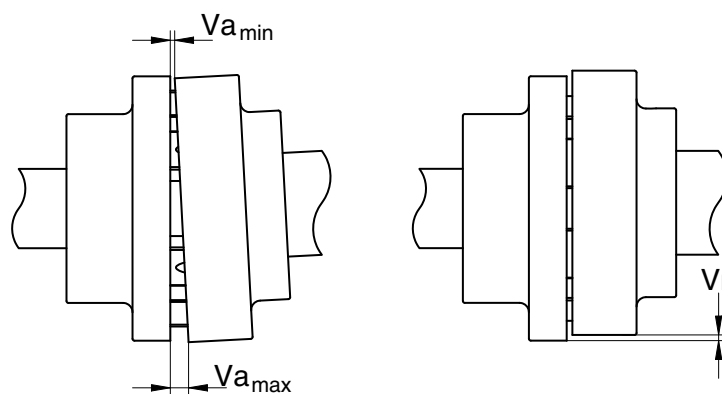

Figure 4: Alignment tolerances standard coupling.
- 3 The alignment is correct if the measured values are within the tolerance limits, see figure 4 and the corresponding table.
The maximum allowable tolerances for the alignment of the coupling halves are shown in Table 2. See also figure 4.